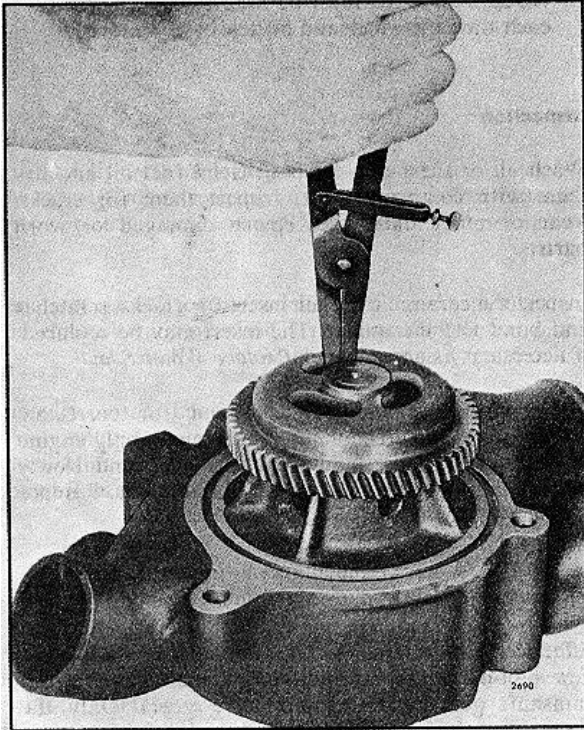

FIG. 4 - Removing Retaining Ring using Tool J 4646
1. Turn the pump gear so the slot is over the ends of the bearing retaining ring, insert pliers J 4646 into the slot and, with the aid of a small screw driver, remove the ring from the groove (Fig. 4).